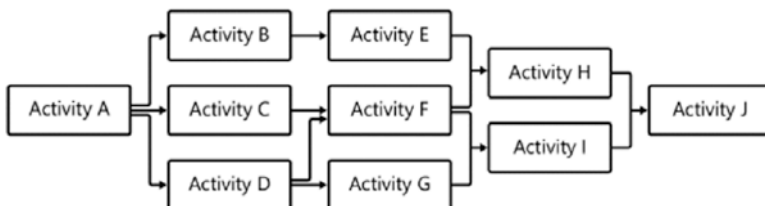

Figure 4-7. Activity-on-node network diagram
Figure 4-7 shows what an activity-on-node (AON) network diagram might look like at the end of the sequencing process. Information about each activity is represented in the nodes on the diagram, and the arrows indicate the relationships between the activities. In this case, they are all finish-to-start (FS) relationships. The AON diagram is the most popular graphical way of representing a network, but there is another less intuitive way called the activity-on-arrow (AOA) diagram.